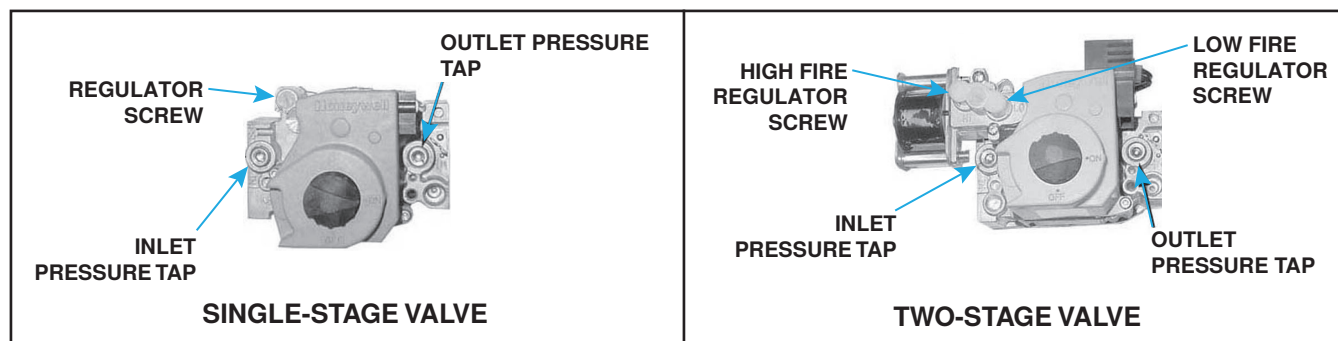

Figure 35. Combination Gas Valves
1. With manual valve (on combination valve) positioned to prevent flow to main burners, connect manometer to outlet pressure tap (see Figure 35) on valve.
3. Normally, adjustments to factory-preset regulator should not be necessary. If adjustment is necessary, set pressure to correct settings by turning regulator screw (see Figure 35) IN (clockwise) to increase pressure or OUT (counterclockwise) to decrease pressure. Consult valve manufacturer's literature provided with furnace for more detailed information.
2. Connect manometer to inlet pressure tap on combination gas valve (see Figure 35).